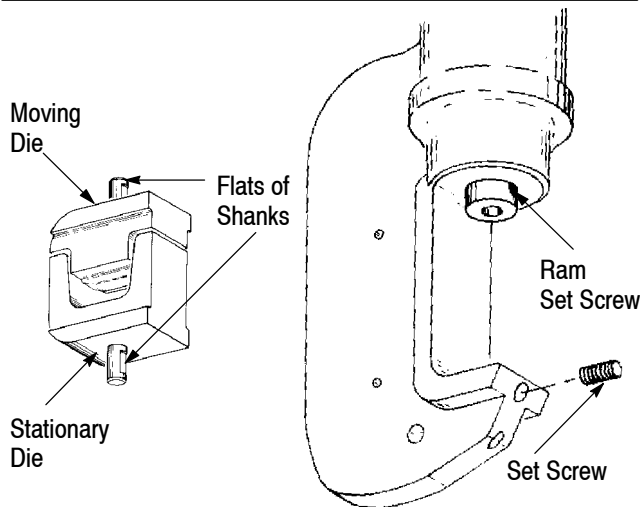

Figure 2
2.2. Die Insertion and Removal (Figure 2)**DANGER**